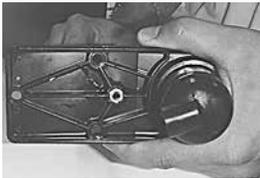

Figure 1
1. Begin with the plastic drip cup holder and align a 10-32 nut over the forward hole. Thread a bolt through the socket. Remove the bolt and secure the nut with a drop of glue, if necessary. (See Figure 1)